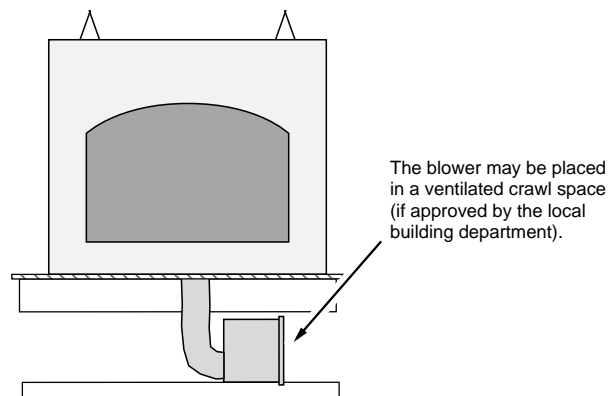

Figure 14
- The blower may be installed to draw air from a crawl space or attic if approved by local building codes (see Figure 14). **NOTE:** certain codes require a fire curtain in these cases.